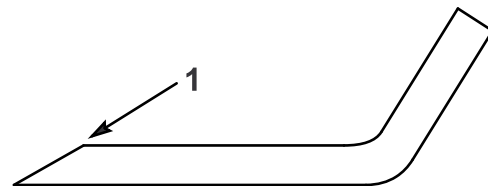

Figure 40
1. Use a file to sharpen the cutting edge at both ends of each blade (Figure 40).